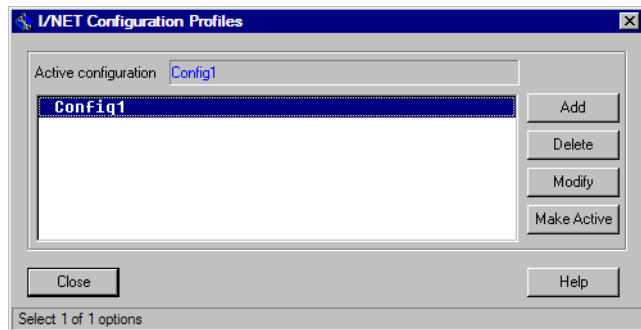
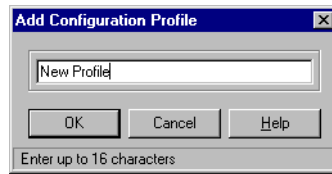

Figure 3-1. I/NET Configuration Profiles Summary
Figure 3-2. Add Configuration Profile
The first editor presented by the Configure program displays a summary of all currently defined configuration profiles (see Figure 3-1).
1. Select **Add** from the I/NET Configuration Profiles summary (see Figure 3-1 on page 3-3). The Add Configuration Profile dialog box displays, as shown in Figure 3-2.